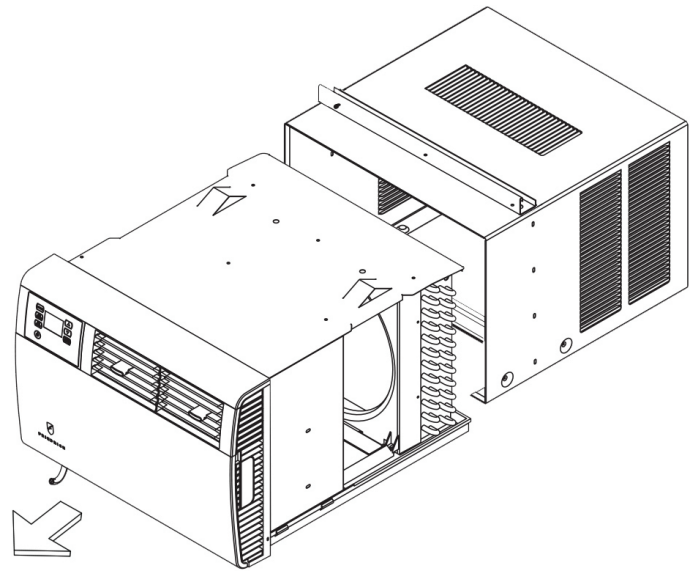

Figure C.4.4
STEP 4 Pull unit from sleeve, using the side handles located on either side of the decorative front. Obtain assistance as needed. Place unit out of the way on a secure, flat surface (Figure C.4.4).